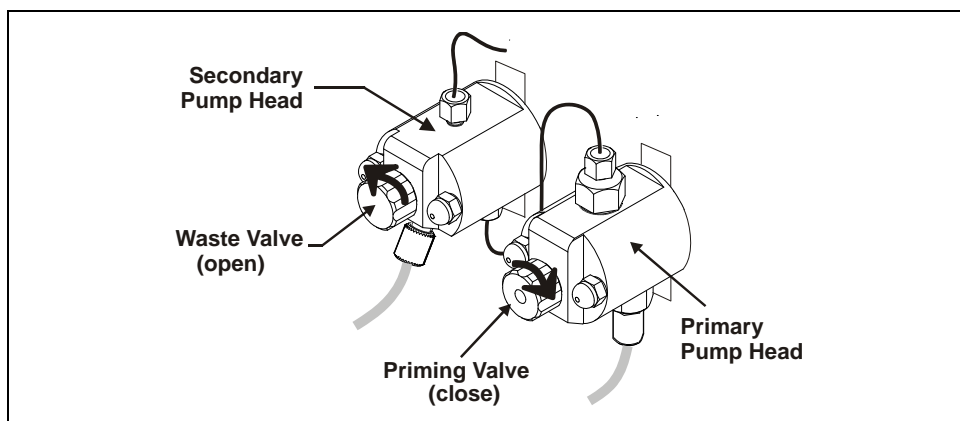

Figure 34. Pump Head Valve Settings for Priming the Pump Heads
1. Close the priming valve on the primary pump head (see Figure 34).
2. Open the waste valve on the secondary pump head by turning the knob one-quarter to one-half turn counterclockwise (see Figure 34). Opening the valve directs the eluent flow path to waste and eliminates backpressure.